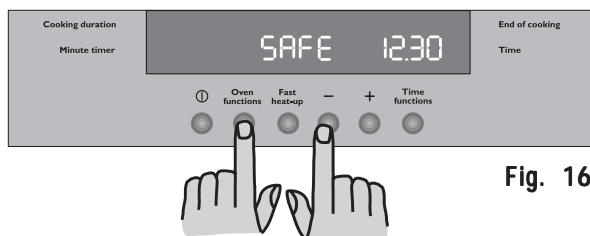

Fig. 16
- 1) Turn off the oven by pressing button ①.
- 2) Press buttons Oven function and "-" at the same time and keep them pressed for about 3 seconds. An acoustic signal will be emitted and the indication 'SAFE' will appear on the display (Fig. 16).